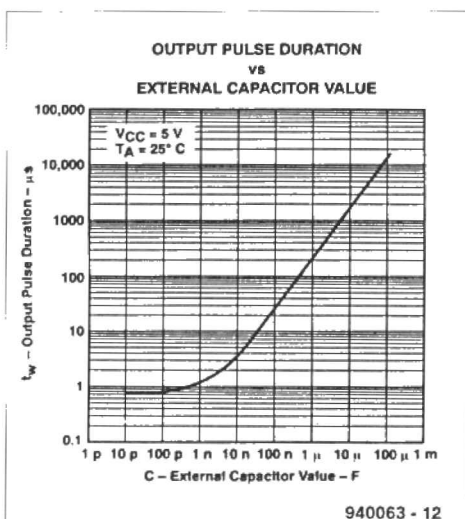
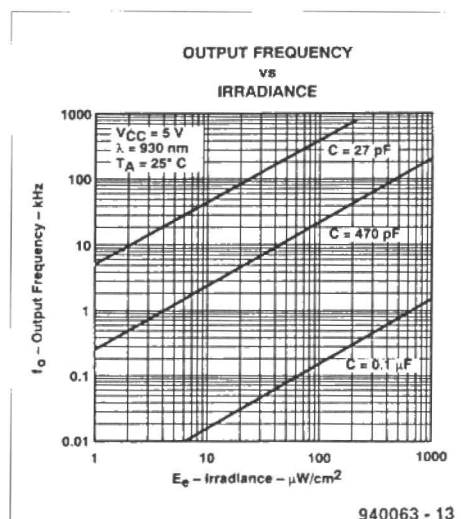

Fig. 2.
Fig. 3.
Fig. 2. Multiplexed processor data bus (upper trace) and the PSEN signal (lower trace). Because the lines are not terminated on the board, the PSEN pulses go negative at times (1). The overshoot is, in principle, the same on the positive voltage change. It is, however, less pronounced because positive-going edges are a little slower than negative-going edges. Fortunately, today's logic circuits are up to these voltage peaks, and just keep ticking. Here, too, a 20-MHz scope will fail to reveal such peaks. The positive supply voltage has a lot of pulse ringing on it (2). This effect is caused by the switching of the address latch (not shown). Although they appear to be faulty at first glance, signals (3) and (4) are normal. At (3), the CE line of the EPROM is no longer active, and the databus is, therefore, in high-impedance mode. The pull-up resistors cause the voltage level to rise slowly. A little later, the processor puts the address information on the bus, in this case, a nought. At (4) you can see the inertia of the EPROM. With a CE pulse, data appears instantly which belongs to a random internal state, in this case, a logic one. It takes a while for the applied address to be decoded internally, whereupon the right data, in this case, a logic zero, appears at the output. The spurious voltage peak does not cause problems because the processor copies the data on the positive-going edge of the PSEN signal. By that time, the data has been steady for 200 ns already.
Fig. 3. Short-circuited databus lines (upper trace) and the PSEN signal (lower trace). Apart from the virtually perfect high and low levels, an intermediate level of about 1 V appears occasionally. This is caused by one databus line trying to pull the line logic high, and the other, logic low. In MCS-51 devices, the pull-down resistor is 'stronger' than the pull-up resistor, causing a contention voltage of about 1 V instead of the expected 2.5 V.
the monostable generates a short pulse. The width of that pulse depends on the value of the external capacitor. The relationship between the pulse and the capacitor is shown in **Fig. 2**. The frequency of the output signal is also determined by an external capacitor—see **Fig. 3**.